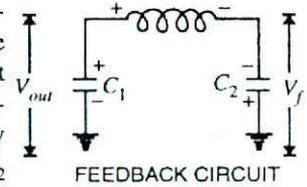

Fig. 16.11
**Circuit operation.** When the circuit is turned on, the capacitors  $C_1$  and  $C_2$  are charged. The capacitors discharge through  $L$ , setting up oscillations of frequency determined by  $\exp^*(i)$ . The output voltage of the amplifier appears across  $C_1$  and feedback voltage is developed across  $C_2$ . The voltage across  $C_2$  is  $180^\circ$  out of phase with the voltage developed across  $C_1$  ( $V_{out}$ ) as shown in Fig. 16.11. It is easy to see that voltage feedback (voltage across  $C_2$ ) to the transistor provides positive feedback. A phase shift of  $180^\circ$  is produced by the transistor and a further phase shift of  $180^\circ$  is produced by  $C_1 - C_2$  voltage divider. In this way, feedback is properly phased to produce continuous undamped oscillation.
\* Referring to Fig. 16.11, it is clear that  $C_1$  and  $C_2$  are in series. Therefore, total capacitance  $C_T$  is given by;
\*\* Referring to Fig. 16.11, the circulating current for the two capacitors is the same. Further, capacitive reactance is inversely proportional to capacitance.